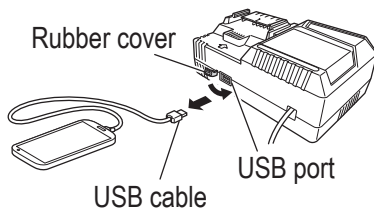

Fig. 34
- Unplug the power cord from the electrical outlet. (Fig. 34)